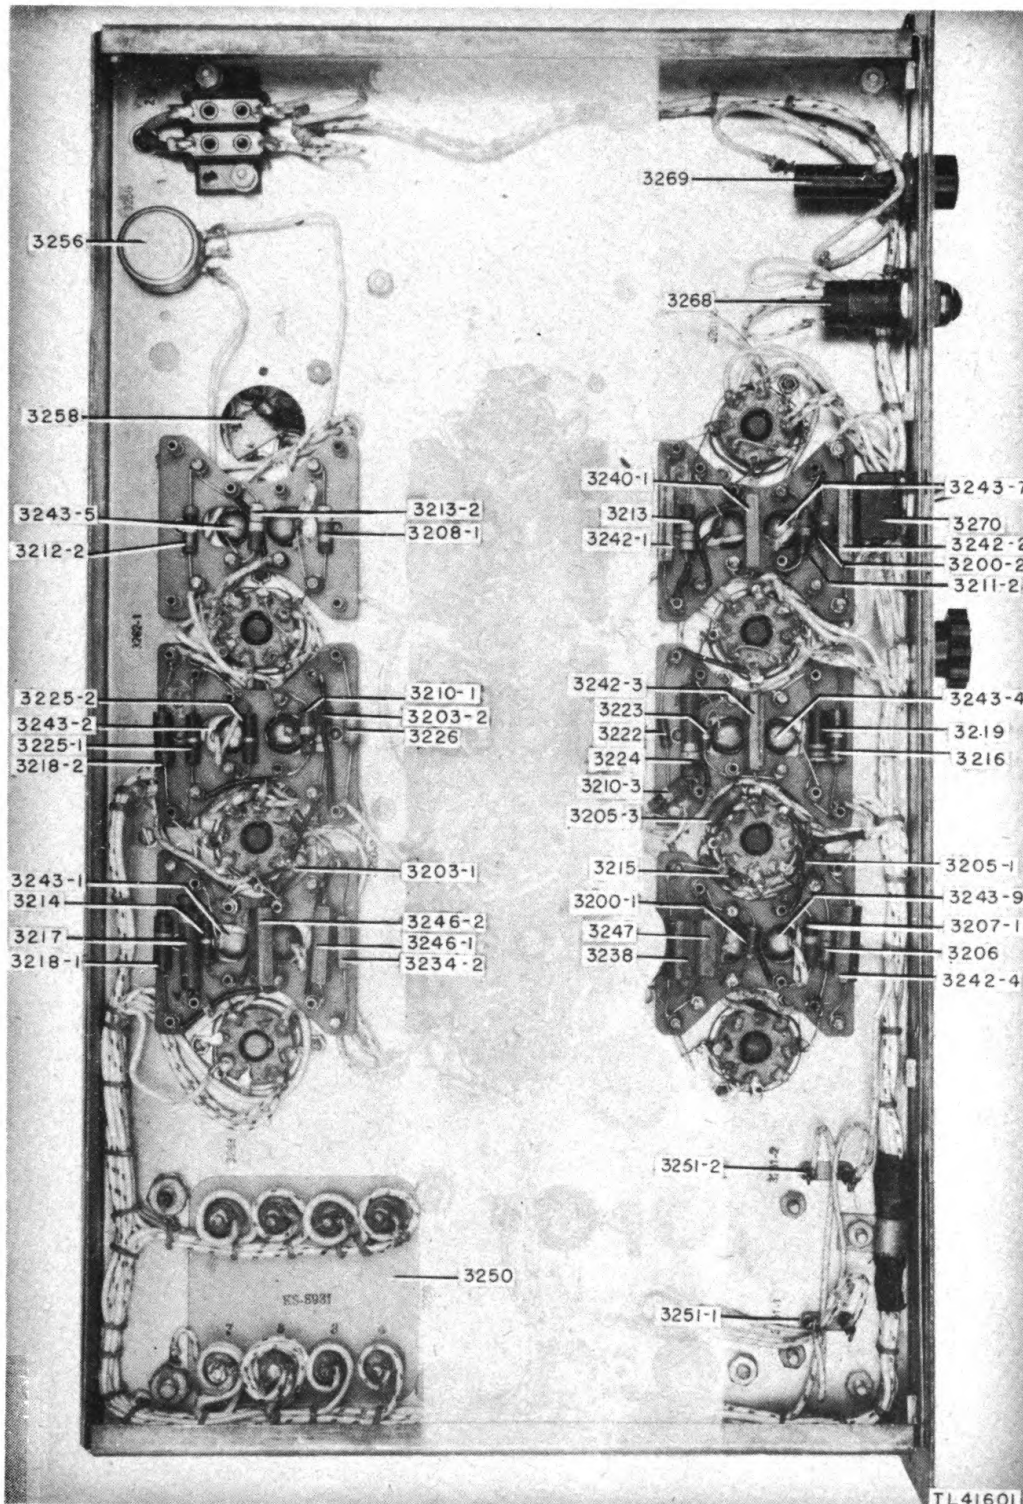

Figure 10. Calibrator I-189-A, bottom of chassis (1).
4. Power transformer 3250	4. Check continuity of windings 1-2 and 7-8 of transformer (fig. 10).
| 1. Rectifier.                   | 1. Check the circuit of tube 3263 (figs. 10 and 12).                  |
| 2. Power transformer 3250.      | 2. Check continuity of windings 3-4 and 5-6 of transformer (fig. 10). |
| 4. 327.8-kc oscillator circuit. | 4. Check circuits of tubes 3260-1 and 3261-1 (figs. 10 and 12).       |
| 2. Synchronizing pulse generator circuit.  | 2. Check the circuits of tubes 3261-2, 3261-3, 3260-2, and 3262 (figs. 10, 11, and 12).                          |
| 1. Marker pulse generator circuits.   | 1. Check the circuits of tubes 3261-6, 3261-5, and 3261-4 (figs. 10, 11, and 12). |